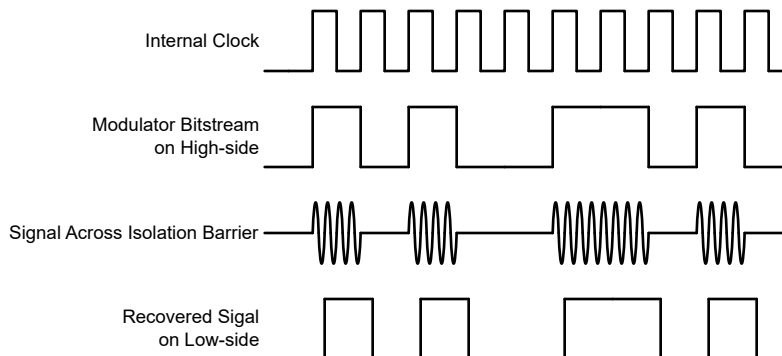

Figure 7-1. OOK-Based Modulation Scheme
The AMC1400 uses an on-off keying (OOK) modulation scheme, as shown in Figure 7-1, to transmit the modulator output bitstream across the SiO₂-based isolation barrier. The transmit driver (TX) shown in the Functional Block Diagram transmits an internally-generated, high-frequency carrier across the isolation barrier to represent a digital *one* and does not send a signal to represent a digital *zero*. The nominal frequency of the carrier used inside the AMC1400 is 480 MHz.